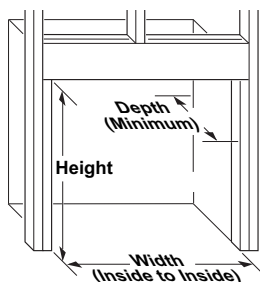

Figure 13 - Rough Opening for Installing in Wall
1. Frame in rough opening. Use dimensions shown in Figure 13 for the rough opening. If installing in a corner, use dimensions shown in Figure 14, page 12, Figure 13, for the rough opening.